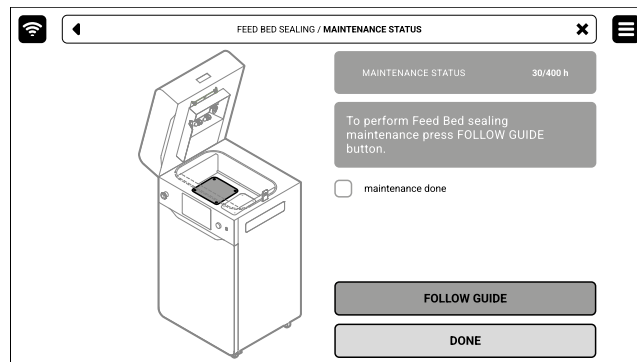

Fig. 13.38 The screen of the maintenance of the Feed Bed sealing.
3. In this case, mark **MAINTENANCE DONE** once you have completed the procedure, and then the **DONE** button. The timer will reset to zero (fig. 13.38).